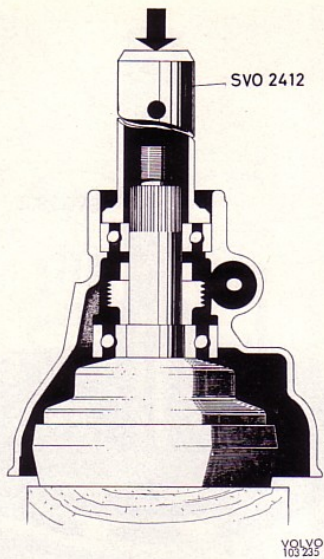

Fig. 26. Fitting the output shaft
3. Support under the output shaft with a block of wood. Fit on the speedometer driving gear and spacer. Press on the rear casing with drift SVO 2412, see Fig. 26.